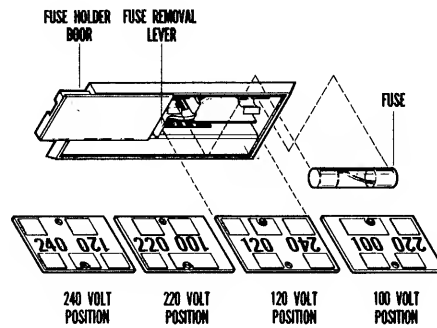

Fig. 2-8 Power Switching Card
4. Slide the plastic shield at the main power socket to the left (Figure 2-7). Remove the voltage switching card. Make sure the voltage switching card is inserted correctly for your line voltage. This card is designed for four primary voltages as shown in Figure 2-8. The card must be plugged so you can read your voltage with the card in the slot. Plug the card back into the slot. If the card was plugged incorrectly for the voltage you ordered, call Intel or your supplier, you may have a diskette drive and CRT of the wrong voltage. Also check the voltage sticker on the front of the diskette drive to make sure it matches the voltage of the system.